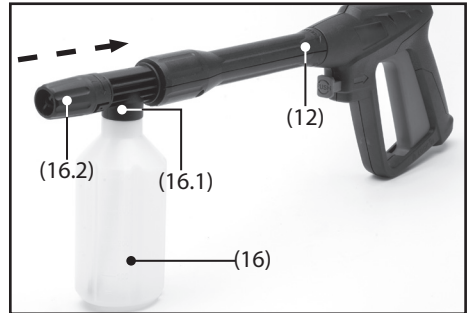

FIG.15
9.1 DETERGENT BOTTLE (00786) – FIG.15
- Remove the bottle spray nozzle (16.1) from the detergent bottle (16) and fill the bottle with a suitable detergent, according to the manufacturer's recommended instructions.
- Re-fit the bottle spray nozzle back onto the bottle, then connect the bayonet fitting of the bottle spray nozzle onto the trigger assembly section (12), using the same method as attaching the lance – by pushing in the bayonet fitting and turning anti-clockwise 45° to lock in place.